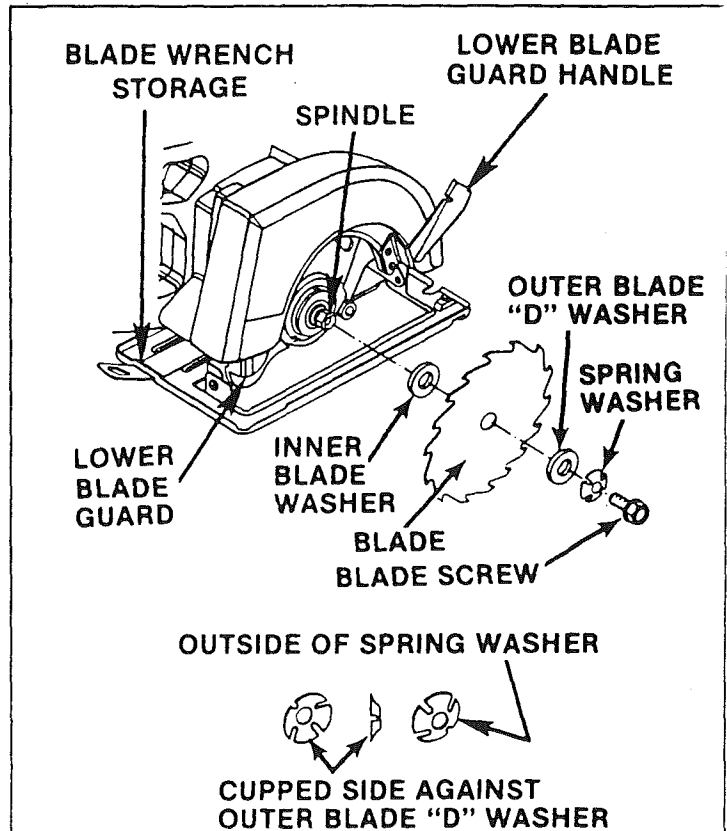

Fig. 2
2. Remove blade wrench from storage area. See Figure 2.
**▲WARNING: IF INNER BLADE WASHER IS REMOVED WHEN ASSEMBLING BLADE, IT MUST BE REPLACED BEFORE PLACING BLADE ON SPINDLE. SEE FIGURE 2.**
6. Replace "D" washer and spring washer. **NOTE:** "Cupped" side of spring washer goes against outer blade "D" washer. See Figure 2.
8. Return blade wrench to storage area. **NOTE:** Always place angled portion of blade wrench up as shown in figure 2.
6. Return blade wrench to storage area. **NOTE:** Always place angled portion of blade wrench up as shown in figure 2.